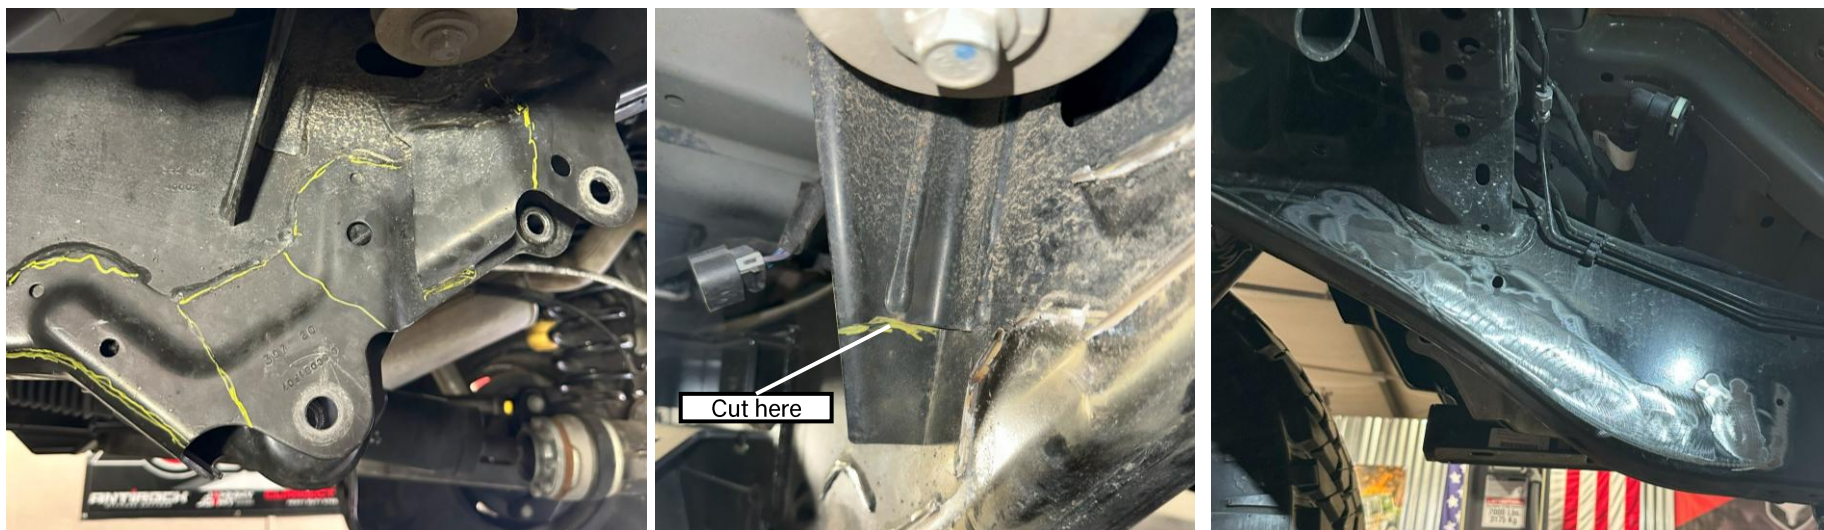

Figure 53: Grind lines to remove OEM control arm bracket and body mount
30. Begin marking the OEM control arm bracket for removal. Following similar cuts marked in yellow (as seen in **Figure 53 below**) may help speed up the removal. Make multiple cuts and remove sections of the bracket at a time until none of the bracket remains on the frame. It is recommended to cut the bracket just below the weld and then grind the weld flat.
Also, mark the tail-end of the body mount and cut until the inside gusset joins the mount. **See Figure 53 below.** Grind the remaining welds on the frame from where the OEM bracket once sat. Paint the area and wait for the paint to dry before installing the new long arms.